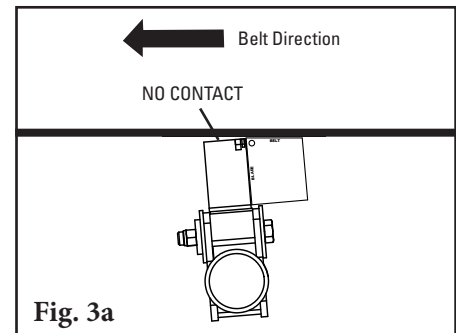
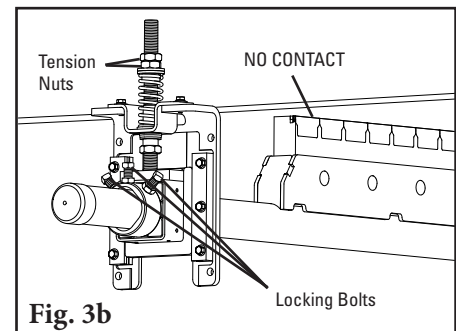

Fig. 3a
Fig. 3b
3. **Set the blade angle.** Center the pole/blades on the belt. Rotate the pole until the blade lays back 5° using the setup gauge provided (Fig. 3a). Tighten the three locking bolts on each torsion pole mount to lock the pole in place. Best practice is to first tighten the middle bolt before tightening the outer bolts to ensure everything is secure (Fig. 3b). There should be no blade-to-belt contact while locking the pole in the correct position. If contact occurs, double-check the dimension from Step 1.